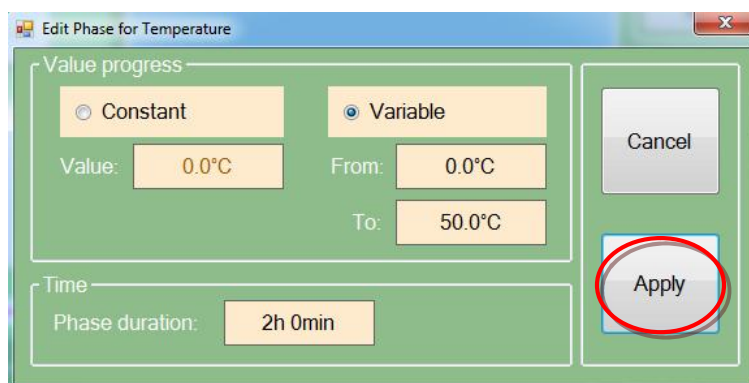

Figure 21 Phase editing window.
- An editing window will appear (Figure 21). It consists of the same functions as the window for addition new phases.